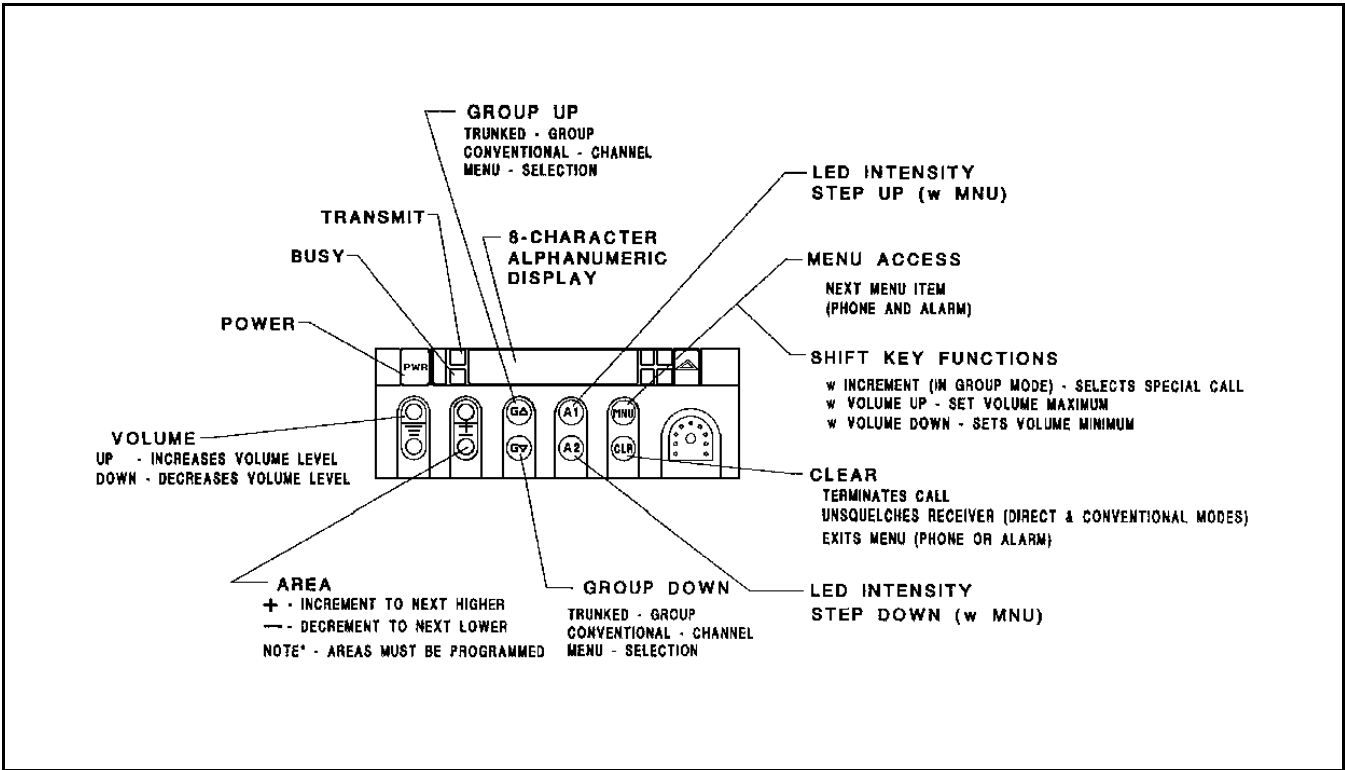

Figure 6 - MDX GE-MARC Front Panel
The MDX GE-MARC trunked radio is equipped with the controls listed below (see Figure 6).
An LED display provides the operational status of the radio. The display contains transmit (TX) and busy (BSY) indicators and an alphanumeric display containing eight characters. (See Figure 6.)